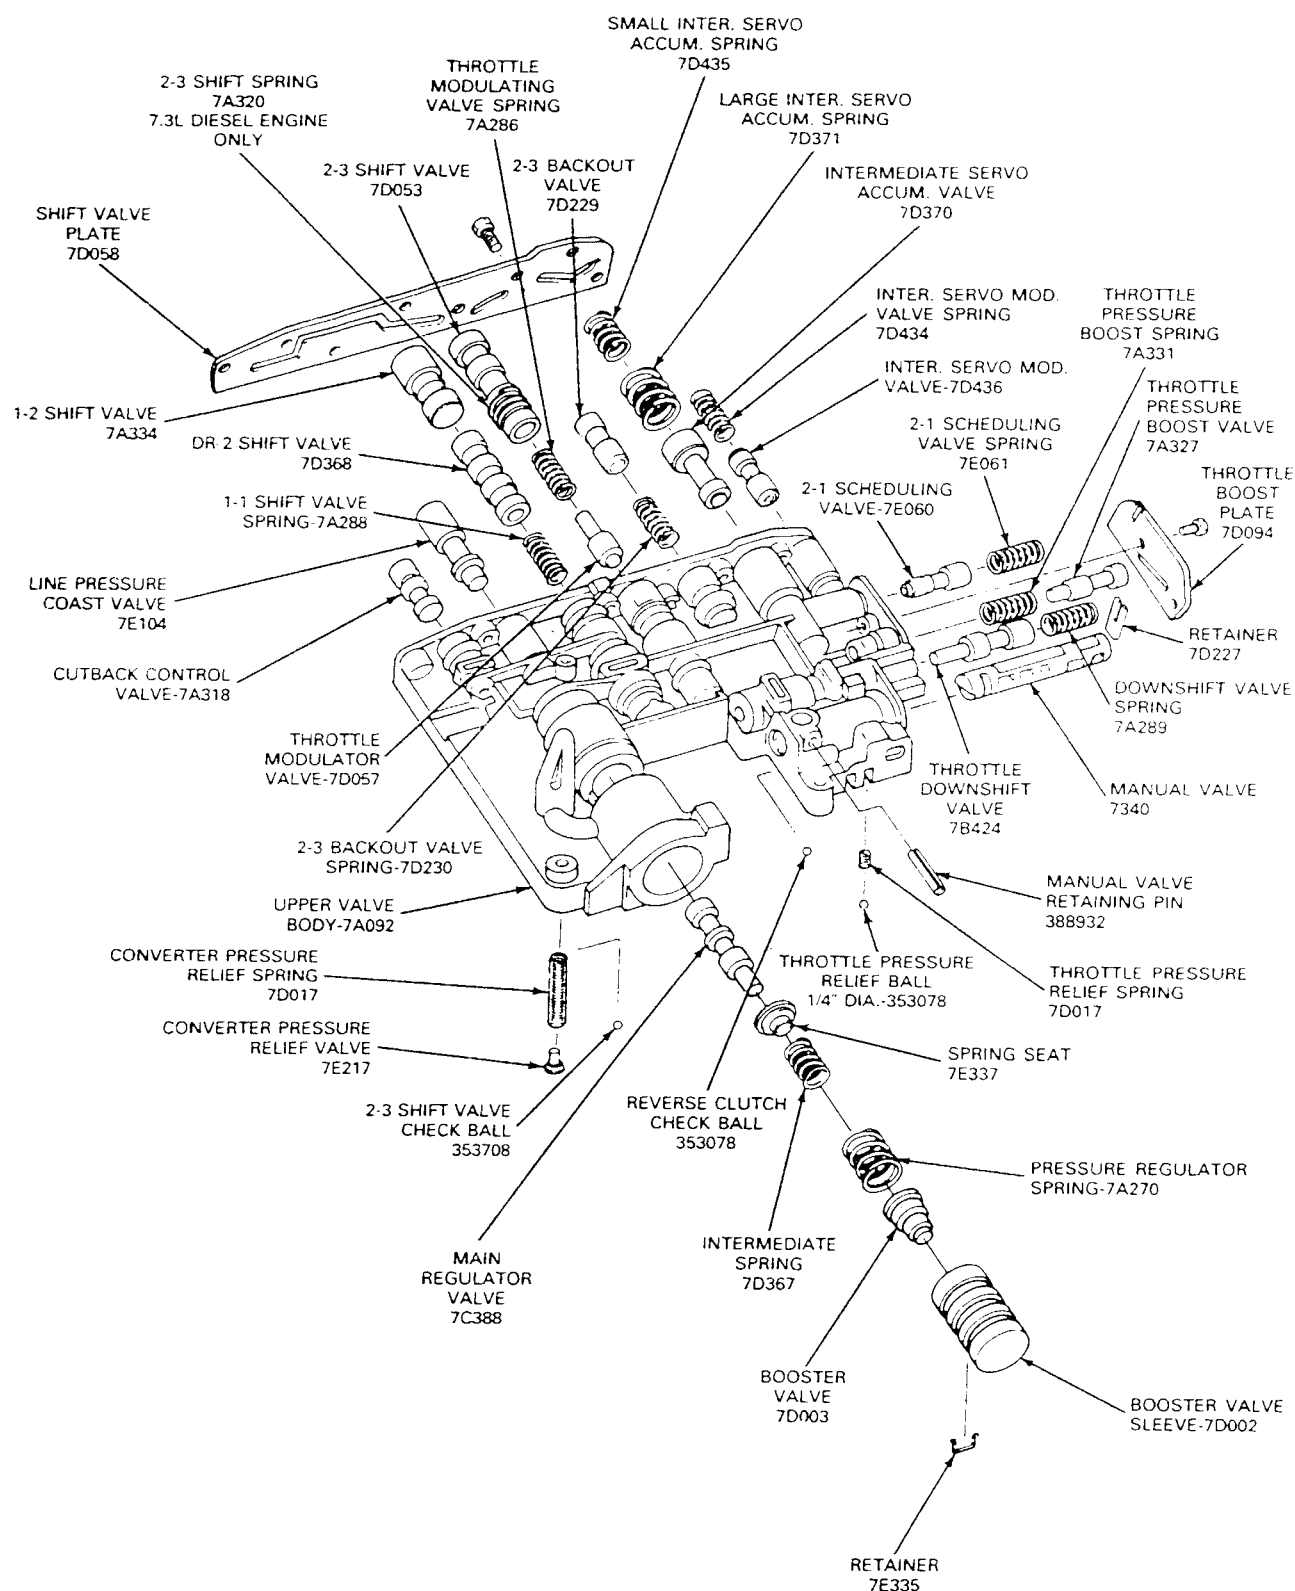

FIG. 26 Upper Valve Body Disassembled
4. Remove the manual valve retaining pin from the upper valve body (Fig. 26).
5. Slide the manual valve (Fig. 26) out of the valve body.
6. Cover the downshift valve bore with a finger, then working from the underside of the body remove the downshift valve retainer. Remove the spring and downshift valve (Fig. 26).
8. Apply pressure on the throttle boost valve retaining plate and remove the two attaching screws. Slowly release the pressure and remove plate, throttle pressure boost valve and spring, and the manual low 2-1 scheduling valve and spring from the body (Fig. 26).
11. Remove the spring and the intermediate servo modulator valve (Fig. 26) from the valve body.
16. Remove the line pressure coasting regulator valve, (Fig. 26) from the body.
9. Place the cutback control valve (Fig. 26) and the line pressure coasting regulator valve in the valve body.